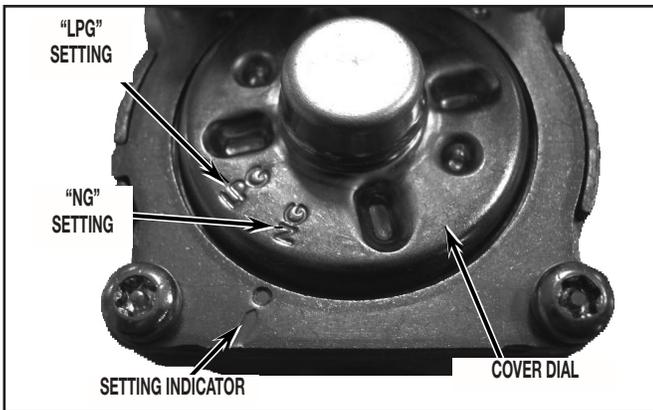

FIGURE 24
- Observe the cover dial settings indicated as NG (Natural Gas) and LPG (Liquefied Propane gas) along with the gas type setting indicator. See *Figure 24*.